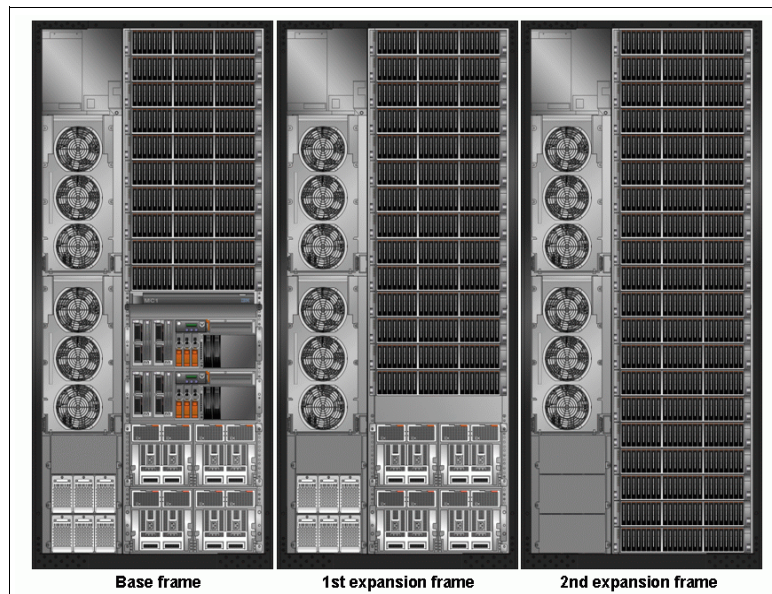

Figure 2-8 DS8800 models 951/95E maximum configuration with 1056 disk drives: Front
There are no I/O enclosures installed in the second expansion frame. In a full three frame installation, the 1056 drives are distributed over all the device adapter (DA) pairs. For an explanation of DA pairs, see 3.5.4, “Device adapters” on page 57. The second 95E expansion frame is displayed in Figure 2-8.